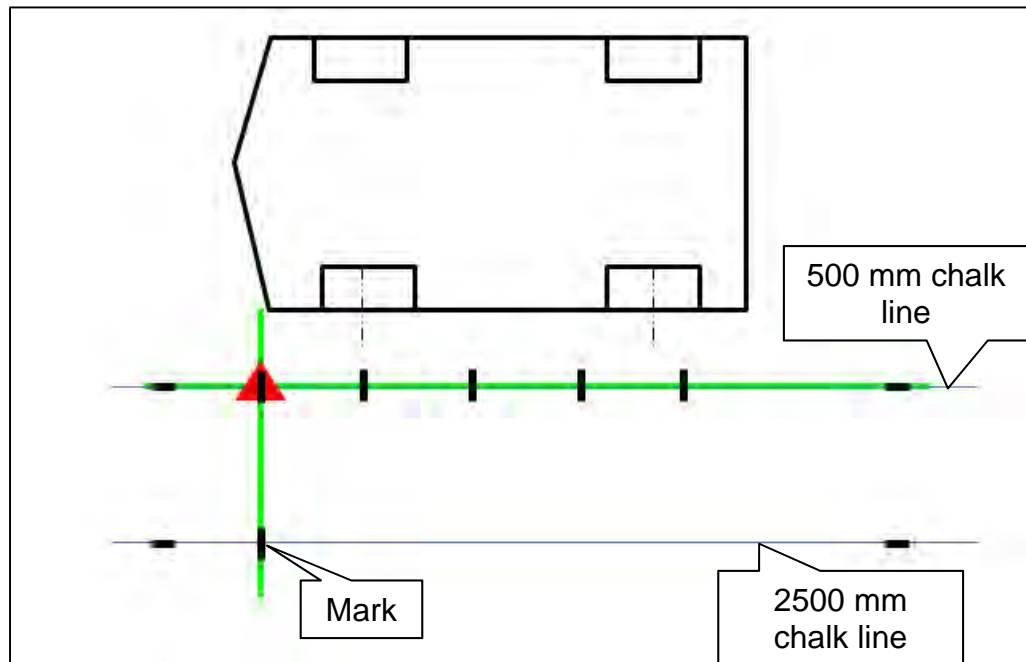

Figure 39
29. Move the laser level to the position shown in Figure 39, and then make a mark on the 2500 mm chalk line.